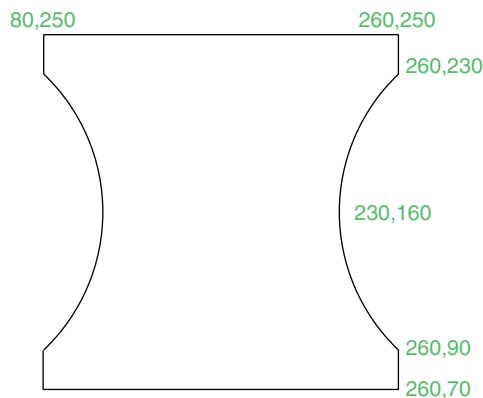

Fig. 3.32 Exercise 1
1. Using the **Line** and **Arc** tools, construct the outline given in Fig. 3.32.